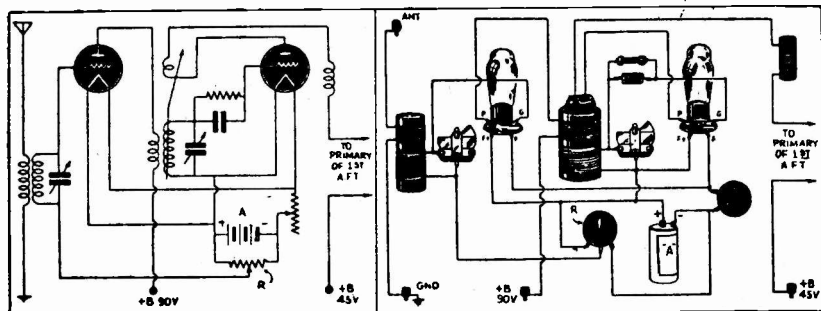
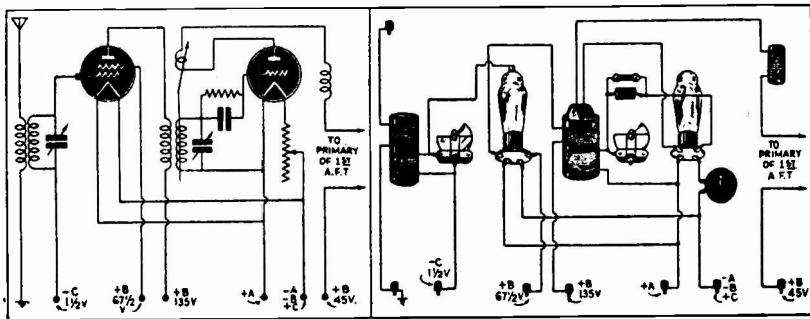

Fig. 22
Fig. 23
The diagram, Figure 22, on this page, shows another type of amplifier—a radio frequency amplifier—which does add to the set's sensitivity and selectivity.
R.F. (radio frequency) stage's plate coil in Figure 22. Having no grid leak and condenser, the tube does not act as a detector. Certain biasing (not used) could also make it detect.
Figure 23, herewith, is precisely the same circuit as that of Figure 22, except that a screen-grid (four-element) tube has been substituted for the three-element tube of the earlier diagram.
To get different voltages for the various stages of the set, a voltage divider, R, is used. As it is connected across the lines, it always draws some current through itself, and is therefore often called a "bleeder." This resistor is usually provided with contacts which can be fastened at any desired points, so that the desired voltages may be tapped off. It works much like the potentiometer resistance described in Figure 22.